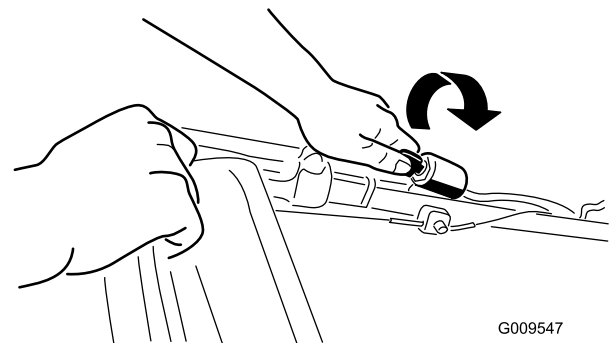
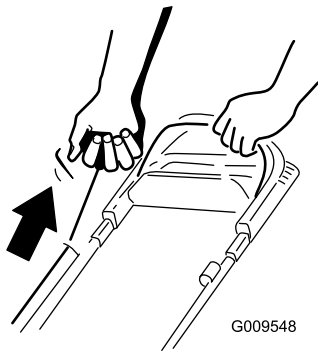

Figure 11
Figure 12
2. Turn the ignition key (Figure 11) (electric-start models only) or pull the recoil start handle (Figure 12).
**Note:** When you pull the recoil start handle, pull it lightly until you feel resistance, then pull it sharply (Figure 12). Allow the rope to return to the handle slowly.